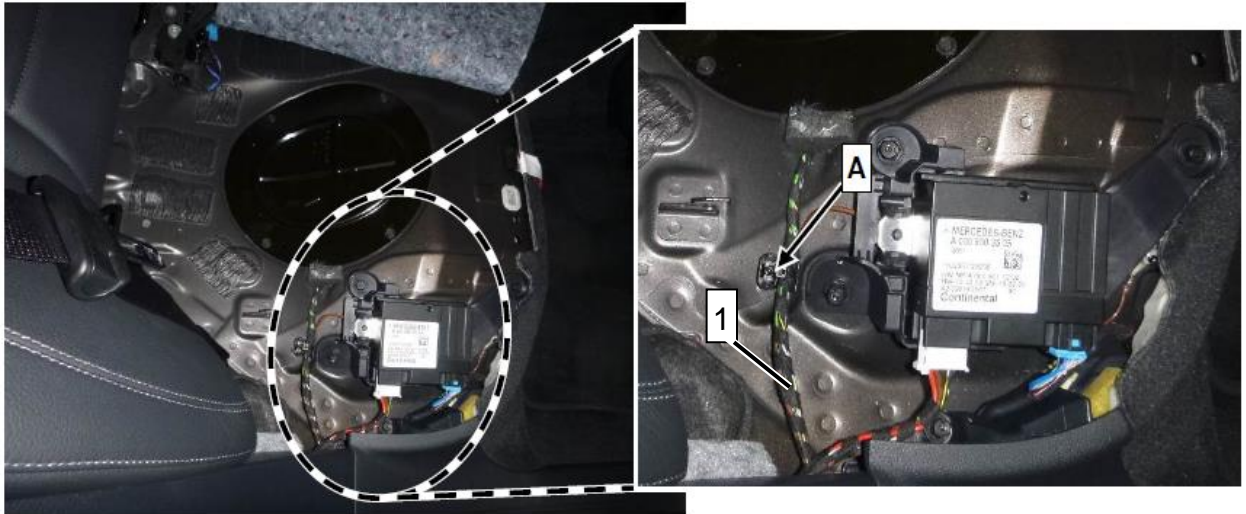

Figure 1
2. Remove cable tie (A, Figure 1).
6. Wrap wiring harness (1 Figure 1) with cloth tape (E, Figure 5) from branch-off line for cable duct up to foam insulation (F, Figure 5) for fuel pump package.